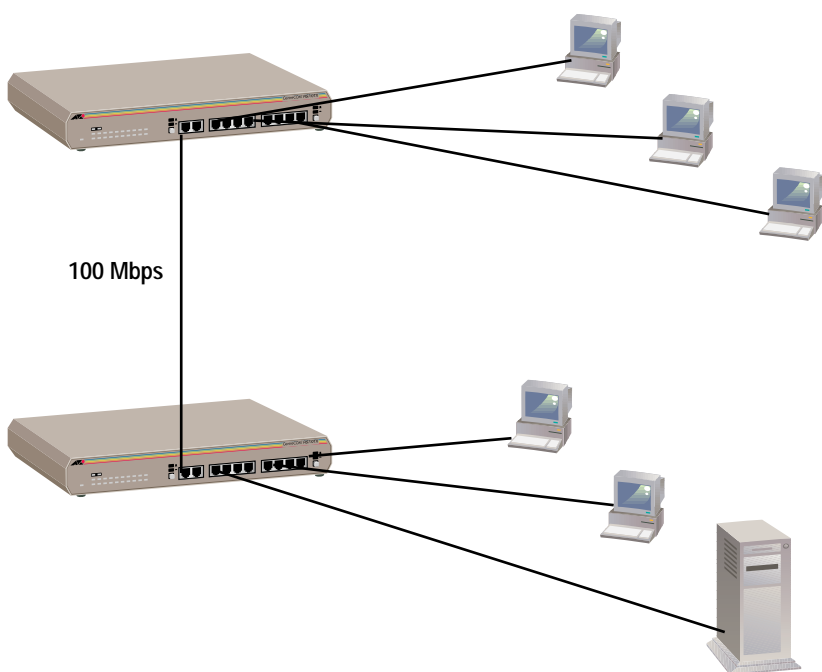

Figure 10: Cascading Switches
2. Use a straight-through UTP RJ45 cable to connect the first switch to the second switch. See Figure 10.